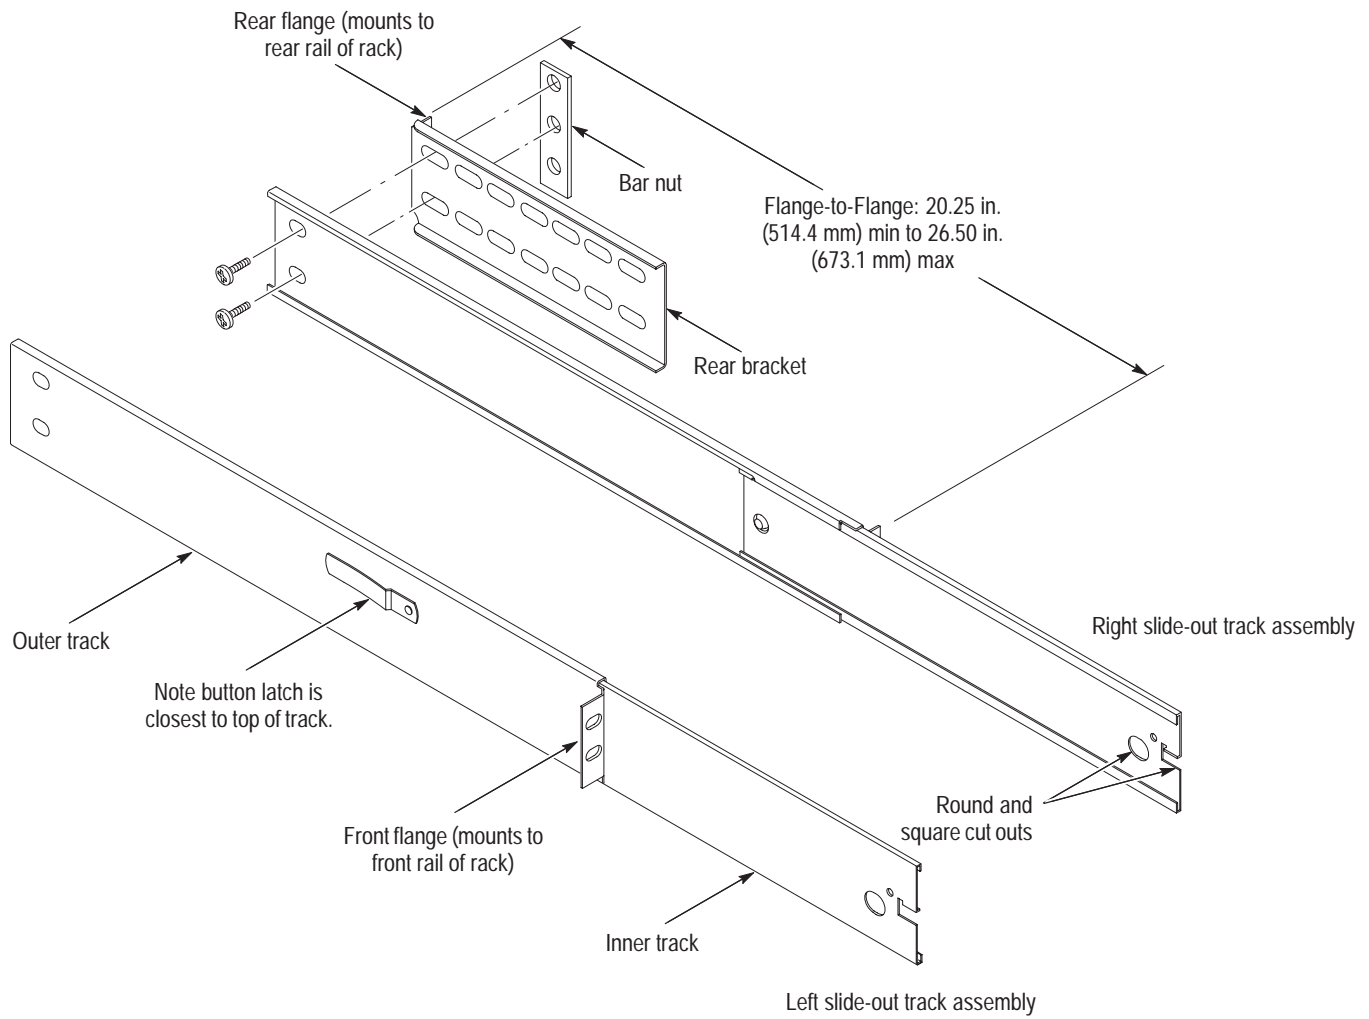

Figure 9: Assembly of slide-out track assemblies
If assemblies are disassembled, use Figure 9, page 18, to match left and right slides. (Note that when the left and right tracks are oriented as shown, the round cutout is below the square cutout at the end of the both inner tracks.)
- c. Align the rear bracket to the right slide-out track as shown in Figure 9. Note the rear bracket has multiple pairs of mount-through holes. When aligning the bracket and track, be sure to select a pair of holes that mount the rear bracket so the flange-to-flange distance (see figure) matches the front-rail to rear rail. That spacing of the rackmount rack just measured.